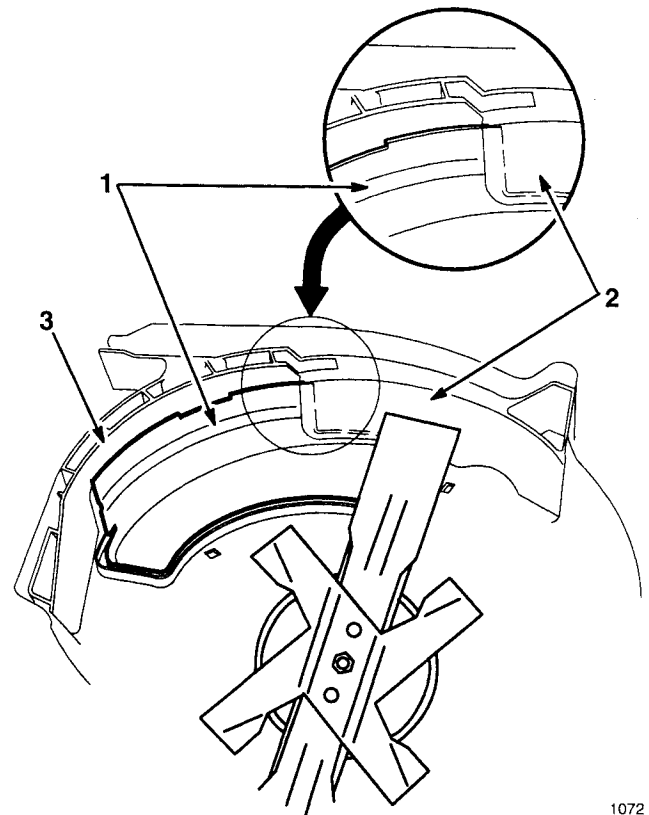

Figure 41
- Check clearance between blade tips and chute baffle making sure there is no contact (Fig. 41).
**Note:** The chute baffle must go behind the front deck baffle and between blade and toe guard to prevent contact with blade (Fig. 41).